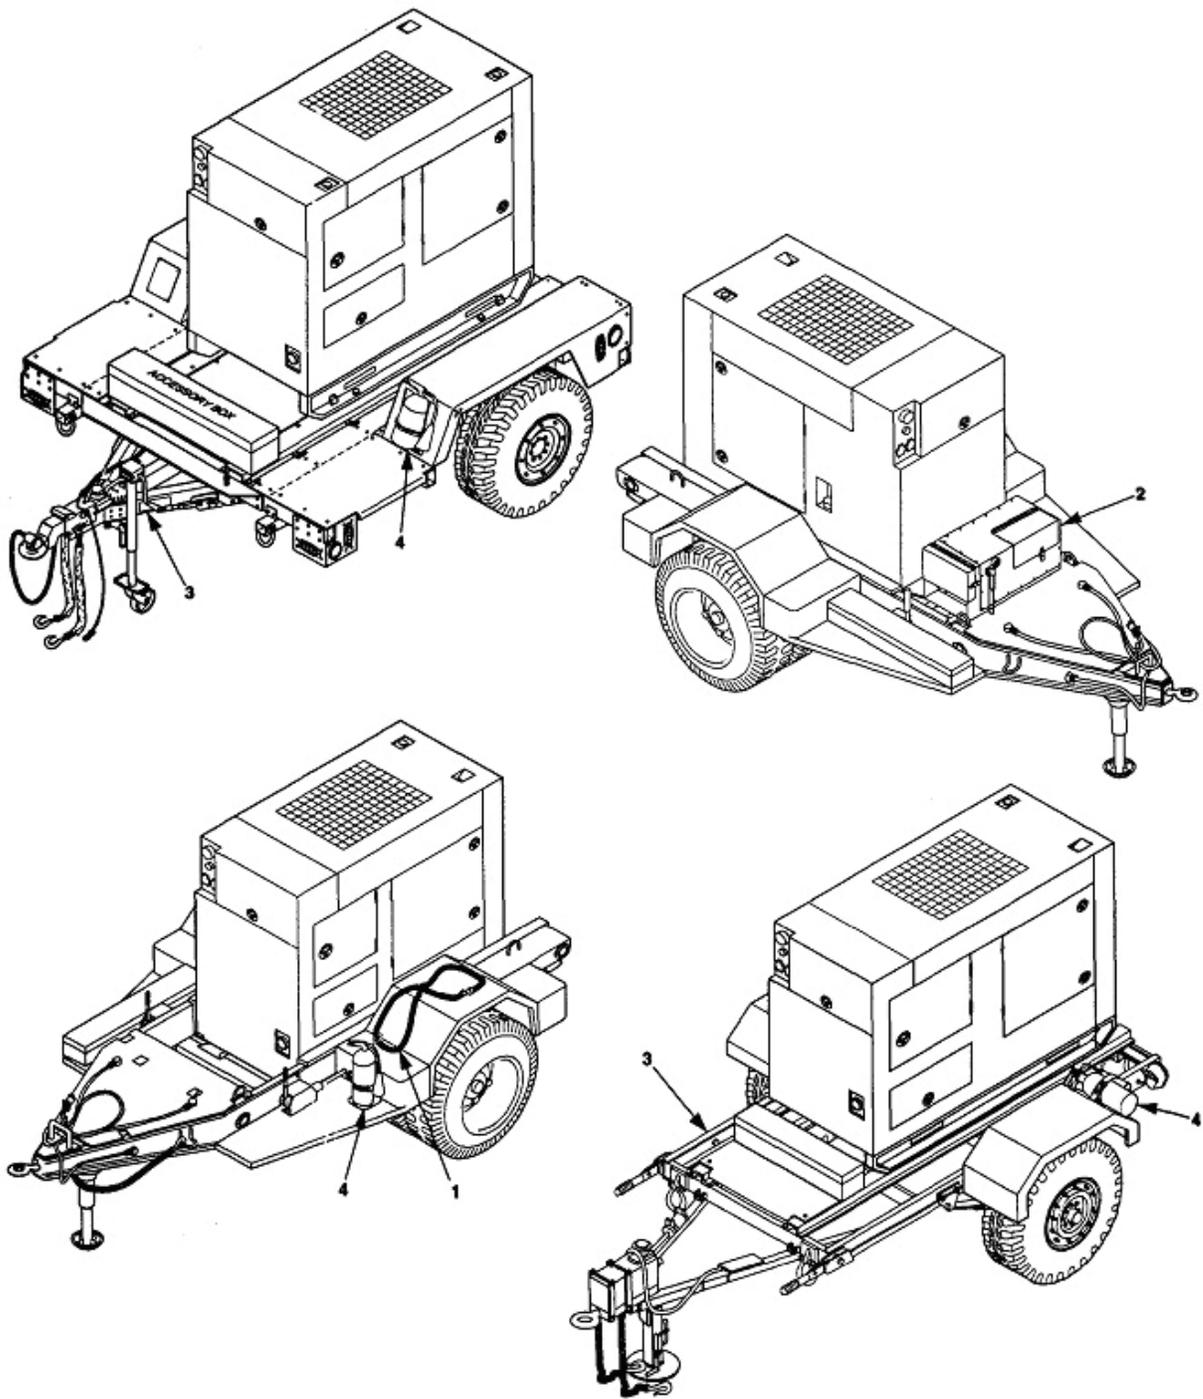

Figure 4-4. Unit PMCS Routing Diagram.
**4-8.4 Special Instructions.** Preventive maintenance is not limited to performing the checks and services listed in the PMCS table. Refer to figure 4-4 for PMCS routing. Covering unused receptacles, stowing unused accessories, and performing other routine procedures such as equipment inventory, cleaning components, and touch-up painting are not listed in the table. These are things you should do any time you see that they need to be done. If a routine check is listed in the PMCS table, it is because experience has shown that problems may occur with this item. Take along tools and cleaning cloths needed to perform the required checks and services. Use the information in the following paragraphs to help you identify problems at any time, and to help identify potential problems before and during checks and services.
Refer to TM 9-6115-643-24 for generator set troubleshooting procedures and to TM 9-2815-254-24 for engine troubleshooting procedures. Refer to TM 9-2330-205-14&P for 2 ½ ton trailer (M200A1) troubleshooting procedures, TM 9-2330-202-14&P for 1 ton trailer (M116A3) troubleshooting procedures, and TM 9-2330-392-14&P for Light Tactical Trailer troubleshooting procedures. The symptom index for the power plant lists faults associated with switch box operation. Figure 4-4 through figure 4-8 provide an OK-NOT OK flowchart of each malfunction. Each malfunction listed includes a reference to the applicable figure that contains a chart to help you determine probable causes and corrective actions to take. The symptom index cannot list all faults that may occur, nor all the tests or inspections and corrective actions. If a malfunction is not listed or cannot be corrected by listed corrective actions, notify next-higher level of maintenance for assistance.